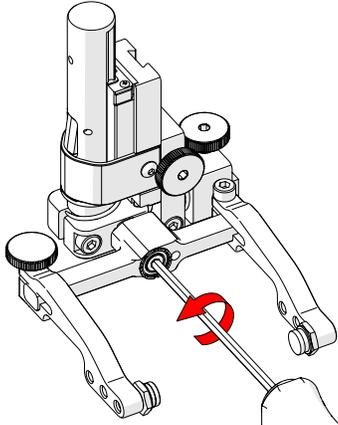

Fig. 90 - Unscrew yoke pivot screw
2. Using the supplied 3 mm hex driver, unscrew the yoke pivot screw and remove the yoke (Fig. 90).